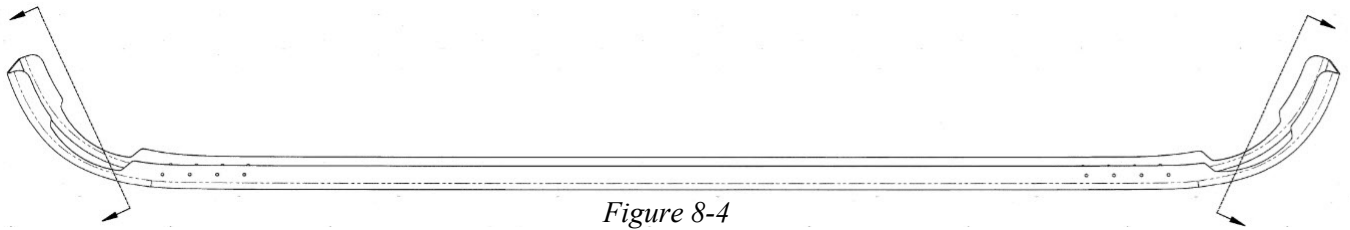

Figure 8-4
- D. Drill (6) .098" dia. pilot holes for Formed Clip and (4) .128" dia. pilot holes for (4) Camlocs as shown in Figures 8-4 & 8-5.